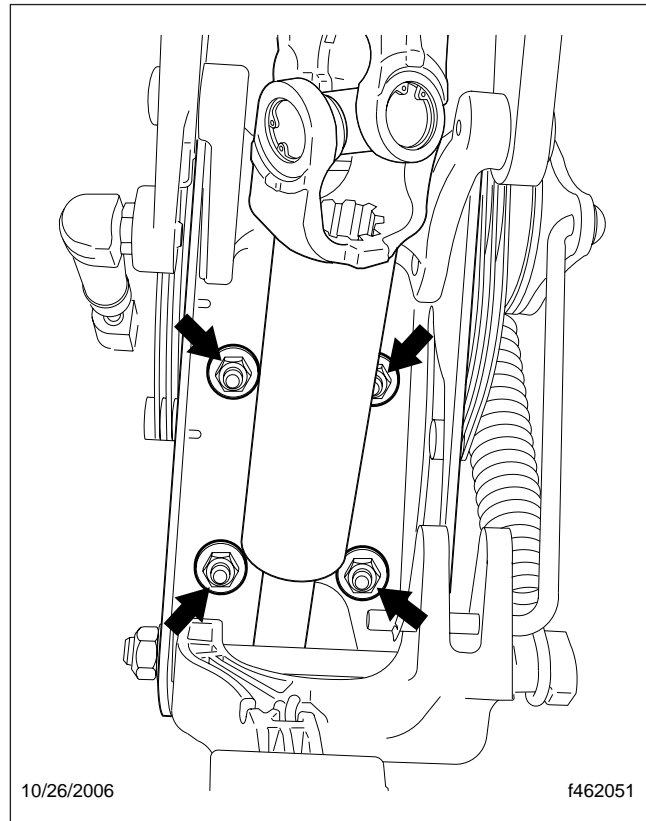

Fig. 2, Dash Support Locknuts
4. Remove the four locknuts that attach the steering column to the dash support. See Fig. 2.